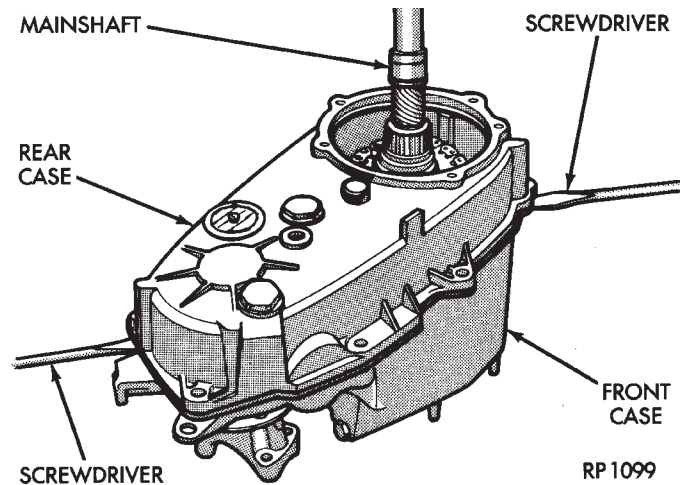

Fig. 4 Loosening Rear Case
(9) Remove bolts attaching rear case to front case. Retain bolts and washers.
(10) Separate rear case from front case (Fig. 4) Insert screwdrivers into slots cast in case ends. Then gently pry upward to break sealer bead and loosen rear case.